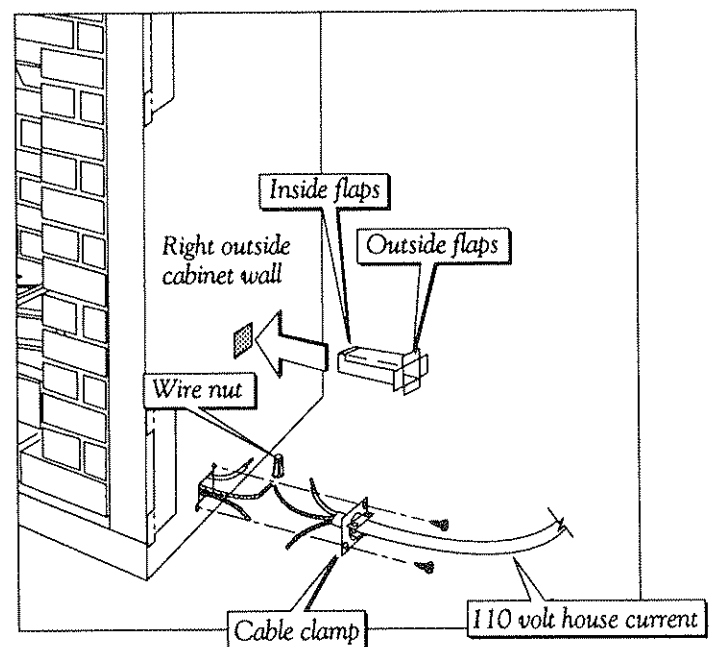

Figure 24. Power connection and gas conduit installation.
Step 1. Remove the cable clamp from the right side of the fireplace cabinet and install it on the house current cable. Figure 24.